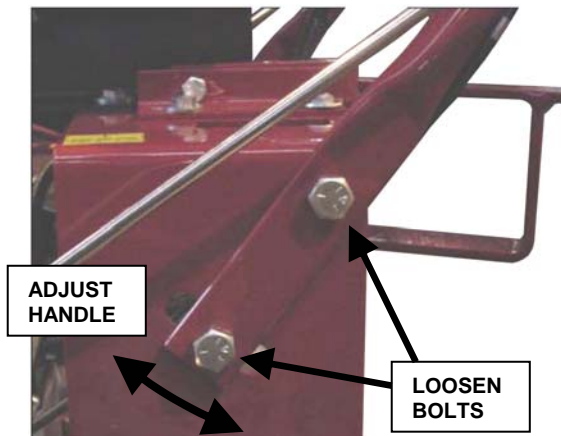

FIGURE 6.4
1. Loosen the two bolts on either side of handle assembly. See Figure 6.4.